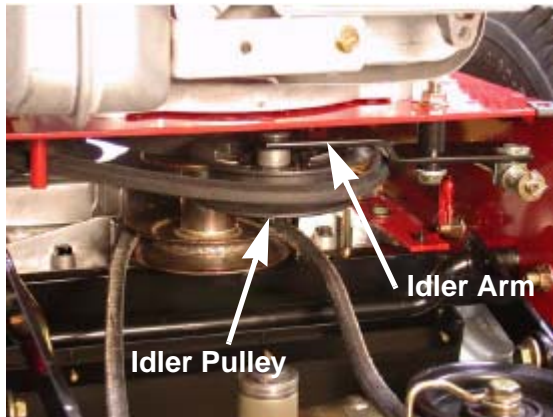

FIGURE 3
5. Using a 9/16 inch socket remove the lock nut securing the idler pulley to the idler arm. Discard the existing bolt, washer and lock nut. See Figure 3.